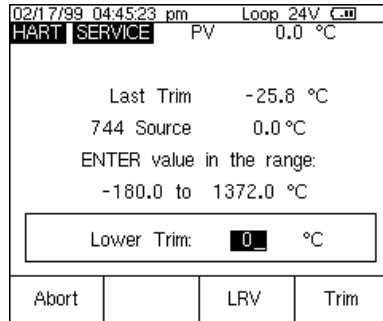

Figure 14
- If the As Found test failed (i.e., there were highlighted errors in the error summary table), adjustment is necessary. Press the **Adjust** softkey. Select **Sensor Trim** and press **ENTER**. Select **Perform user trim – both** and press **ENTER**. The 744 screen should look like Figure 14.